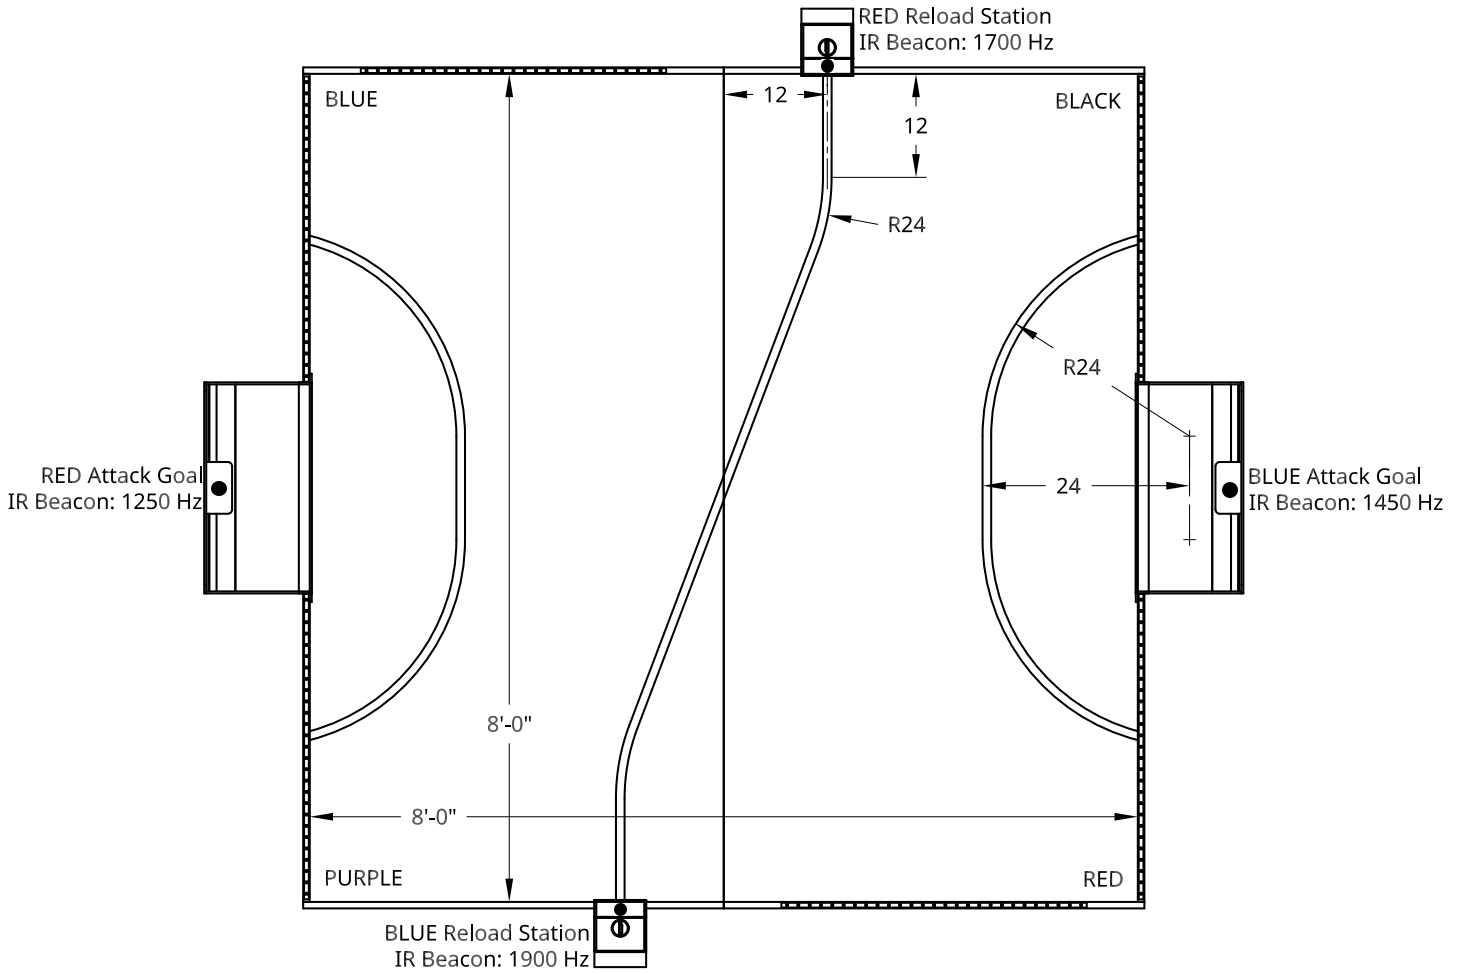

Figure 1: The field.
- The field is an approximately 8'×8' area with exterior walls 3.5" tall. A top view is shown in Figure 1.
- The resulting field will have a pure blue corner at the top left, pure red at bottom right, purple at bottom left, and black at top right, per Figure 1.
- The reload stations will be connected by a 1” black tape line, as shown in Figure 1. Beneath the black tape will be a wire carrying a 100 mA current modulated at a frequency of 20 kHz.
- The region in front of the goal (“the crease”) will be marked around each goal by a 1” black tape line, as shown in Figure 1.